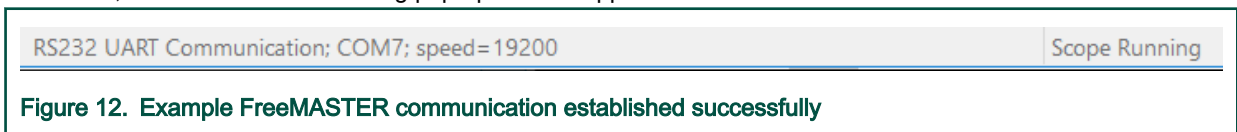

Figure 12. Example FreeMASTER communication established successfully
- If the communication is established successfully, the FreeMASTER communication status in the bottom right-hand corner changes from “Not connected” to “RS232 UART Communication; COMxx; speed=19200” (see Figure 12). Otherwise, the FreeMASTER warning pop-up window appears.